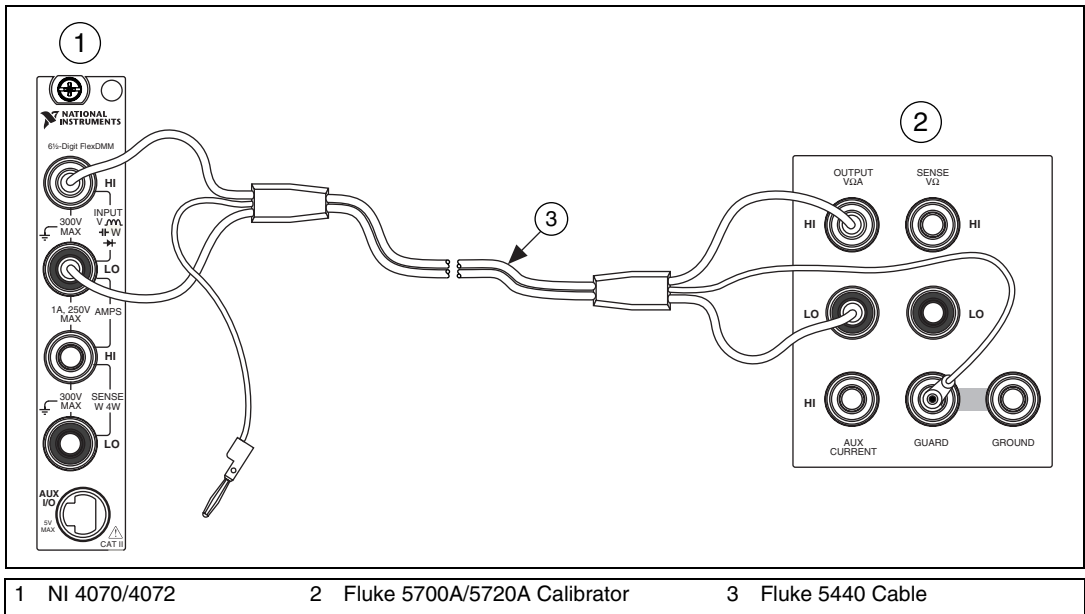

Figure 3. Cable Connections for Voltage and 2-Wire Resistance
22. Fasten the connectors on one end of the Fluke 5440 cable to the appropriate banana plug connectors of the NI 4070/4072, and fasten the connectors on the other end of the cable to the appropriate calibrator binding posts. Figure 3 shows the correct connections. Table 1 lists the cable connections.